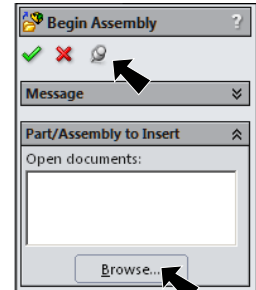

Fig. 1
Step 2. Click **Keep Visible**  in the Property Manager, **Fig. 1**.
Step 3. Click **Browse** in the Property Manager, **Fig. 1**.
Step 6. Click **Browse** in the Property Manager, **Fig. 1**.